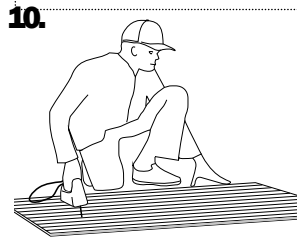

**Fig. 22**
- Install side parts of the butt end as shown in Fig.16. Holding a piece of cover surface in place, fasten it with screws and washers on parts 8 (Fig. 22). And on angles with the use of self-tapping screws with washers. Holes for screws should be drilled with 4 mm bore from inside the greenhouse through ready-made holes in frame parts. Install pieces of "half-rounded ridge" by fastening it to angles with self-tapping screws with washers. Cut off any overlapping parts on the sides.
**4.** Match elements 9-3 and 9-4 (Fig.17) and install them according to Fig.19. press the pieces of polycarbonate at the edges from the doors and Windows lining 9-3, 9-4 (Fig.19), leaving holes for rotator. cut pieces of the coating to be installed above doorways, and under door openings, install it and fasten it with washers (Fig.22) for detail 10.
**9.** Rotator for locking doors and windows inserted into the holes of the uprights of the door opening direct end outside until it stops. Using the tube the bend of the inner rectilinear end of the arm up (Fig. 22). this design allows the rotator to elastically press the door and the window ends in closed position, being both outside and inside the greenhouse.